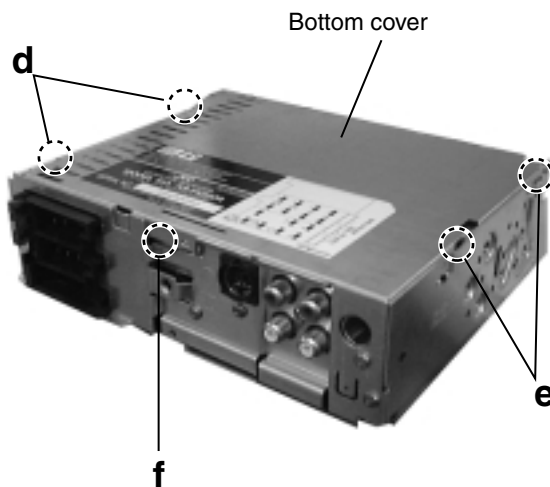

Fig. 5
■ **Removing the bottom cover (See Fig.5)**